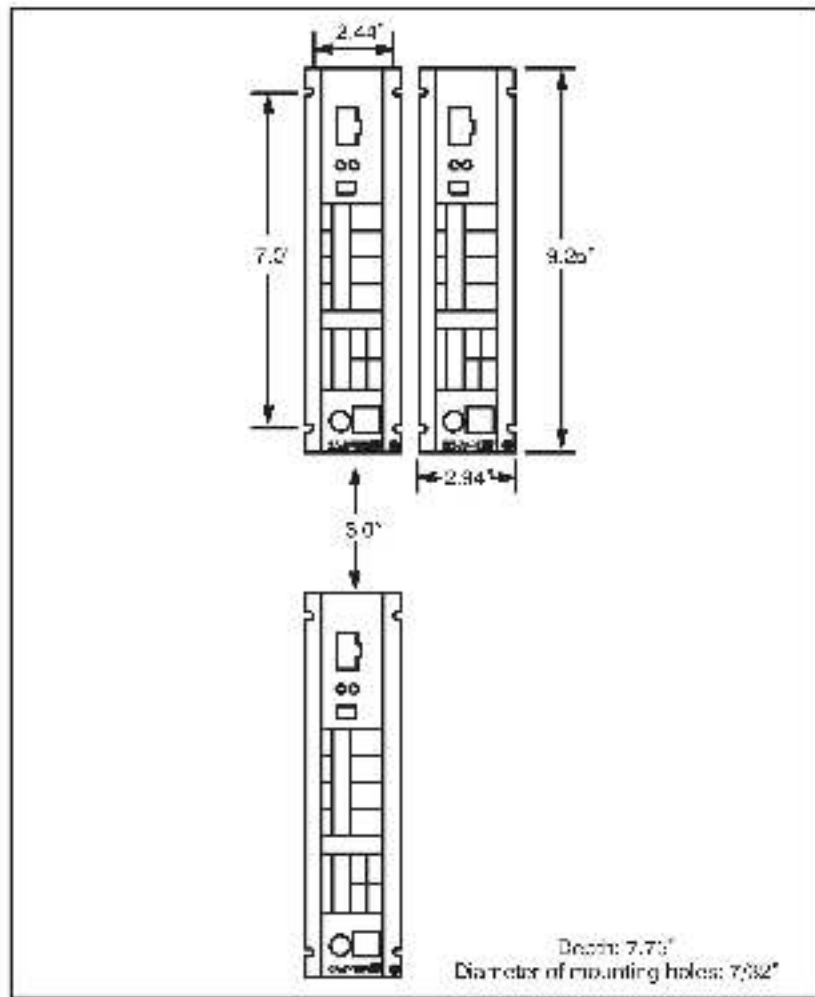

Figure 3.1 - Mounting Dimensions
- Step 1. Using the mounting dimensions shown in figure 3.1, prepare the necessary mounting provisions on the panel. The module is designed to be mounted vertically using four #10 or M6 bolts or studs. Multiple modules should be mounted side by side. The flange width of two modules side by side is sufficient to dissipate the heat produced by the modules. The modules can also be mounted one above the other, but since this hardware configuration does not allow the most efficient heat dissipation, the minimum clearance between the module chassis is 5". See figure 3.1.